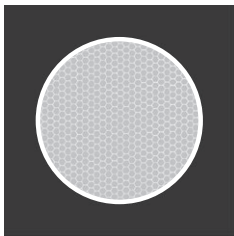

FIGURE 3.5. CHICKEN WIRE
(5) Chicken Wire. An irregular pattern of dark thin lines in the field-of-view either throughout the image or in parts of the image area (see Figure 3-5). Under the worst case condition, these lines will form hexagonal or square-wave shaped lines. **No action is required if this condition is present unless it interferes with the operator's ability to view the image or to perform the mission.**